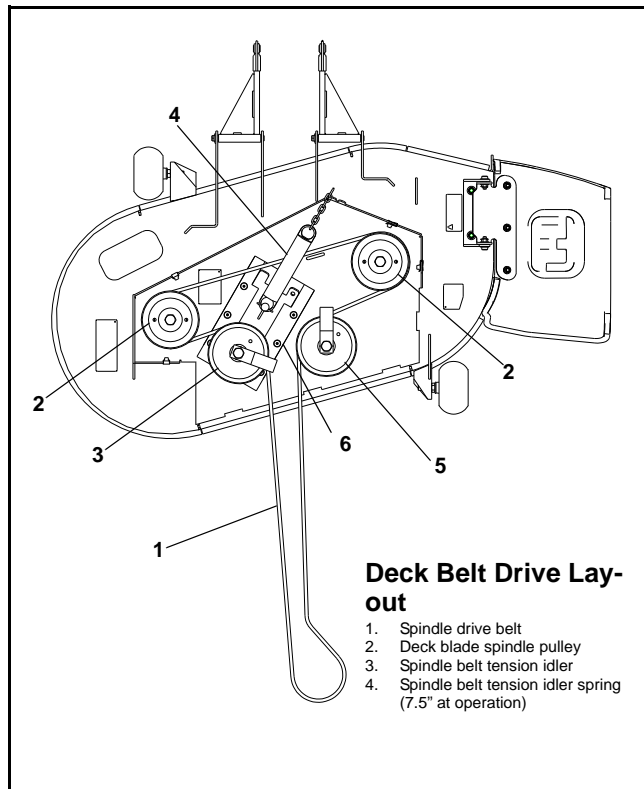
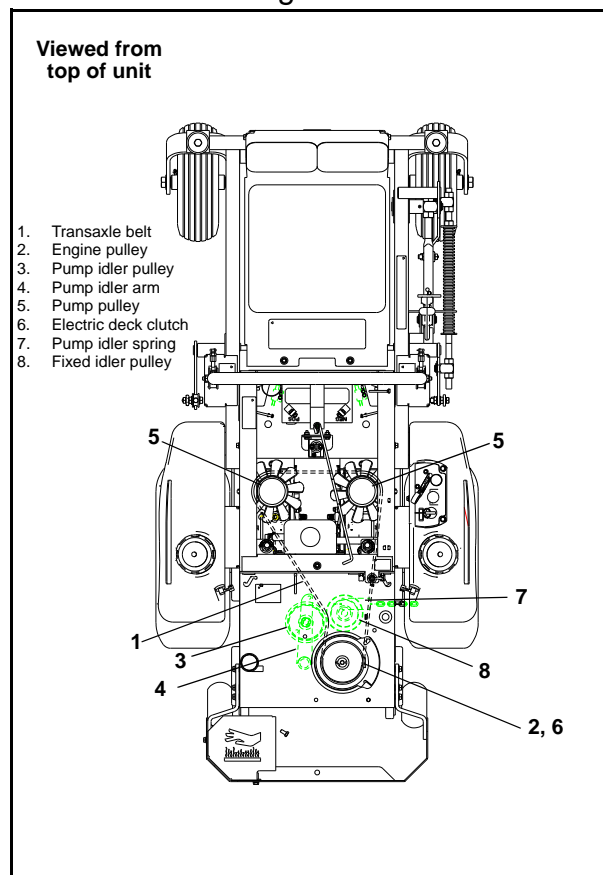

Fig. 9-16
Fig. 9-17
Fig. 9-16 and Fig. 9-17 show diagrams and descriptions of the unit's belt drive systems.
7. Route the new belt per Fig. 9-16.
3. The deck belt must be removed from the clutch pulley first by releasing the deck belt tension by pulling on the belt tension chain and sliding the chain out of the anchor bracket slot. This will relieve the tension on the deck belt idler spring. Fig. 9-17